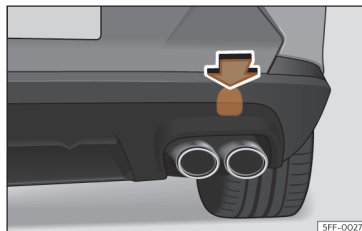

Fig. 201 Rear bumper on right: remove the lid.
The housing of the screw towing eye is on the right side of the rear bumper behind a lid >>> **Fig. 201**.
- Press the upper side of the lid >>> **Fig. 201** to unclip it.